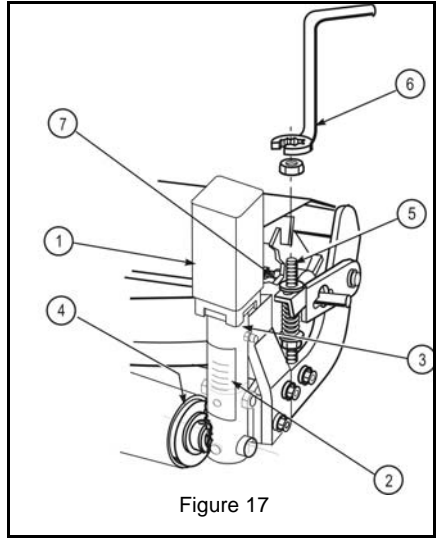

Figure 17
To set the height of cut, lift the Socket/Vinyl Cap of the Dial-A-Height™ (1, Figure 17) up then turn clockwise (viewed from above) to lower the roller (4, Figure 17) (raise the height of cut), or counter-clockwise to raise the roller (lower the height of cut).
The Height Adjustment Scale Decal (2, Figure 17) will provide approximate height of cut corresponding to the Socket/Vinyl Cap rotation.
1. Sight along the bottom edge of the Adjuster Tube (3, Figure 17) to achieve the desired cut height.
The reel is adjusted to a fixed position bedknife. This makes a more rugged and durable frame and retains proper adjustment longer. The reel adjuster bolt (5, Figure 17) regulates the reel distance from the bedknife.
1. To reduce the distance, turn the locking hex nut on each side of the reel down with special reel adjustment wrench (6, Figure 17) and then tighten top nut.
1. Loosen the lock nut on the adjustment screw (7, Figure 17) and (Figure 18), (inside right end of the reel) and turn adjustment bolt in 1/2 turn or less. Do not over tighten as excessive bearing wear can occur.